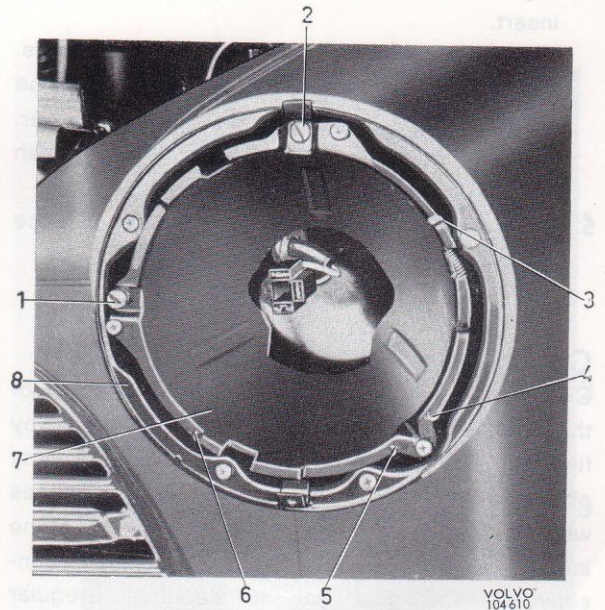

Fig. 116. Headlight cover
4. Slacken the screws (1 and 2, Fig. 116) 8—10 turns to adjust the headlight. Unhook the springs (3—6) from the slide cover (7). Lift off the slide cover from the protection cover (8).